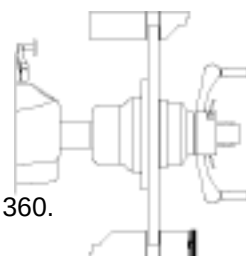

Figure 3-8
- Remove the calibration weight and mount the calibration weight on the right side of the calibration rotor. Perform a measuring run. (Figure 3-8)